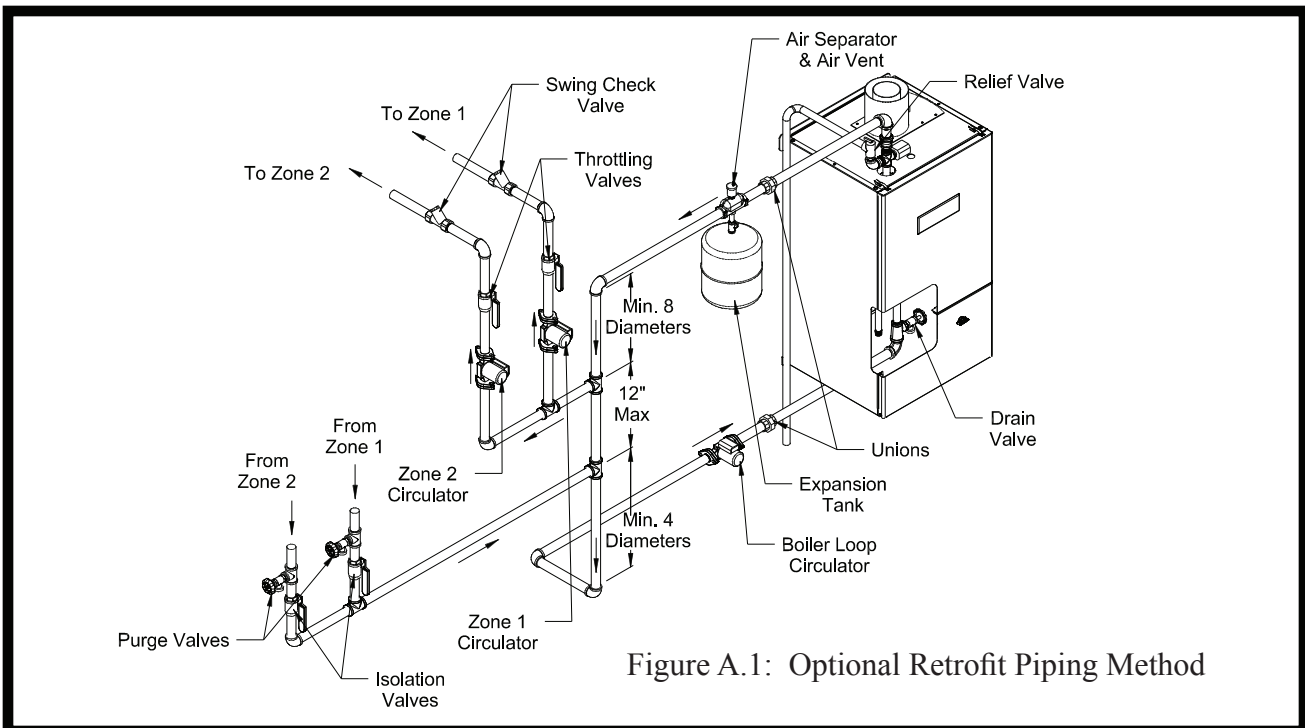

Figure A.1: Optional Retrofit Piping Method
- 2) Connect the original zone manifolds into the two closely spaced tees as shown in Figure A.1. These two tees must be no more than 12” apart. At least 8 diameters of straight pipe must be installed upstream of the upper (supply) tee and at least 4 diameters downstream of the lower (return) tee. If the original zone manifold piping is larger than the boiler loop piping, best results will be achieved by making all boiler loop piping between the closely spaced tees, and for at least 8 diameters upstream and 4 diameters downstream, equal to the larger size. For example, if the boiler loop piping is 1” and the original zone manifolds are 1-1/4”, the boiler loop piping between the tees should be 1-1/4”, along with at least 10” of straight pipe upstream and 5” of straight pipe downstream of the two tees.
- 3) In the example shown in Figure A.1 where Zone 2 is used for an indirect water heater: